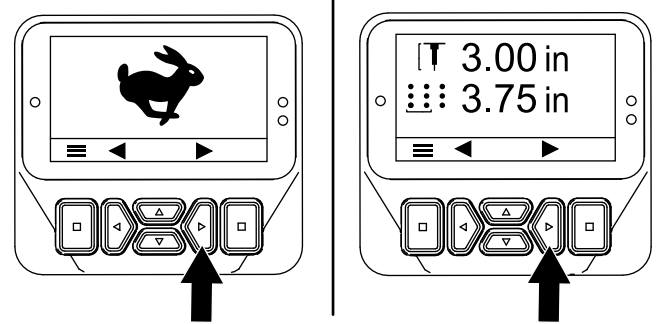
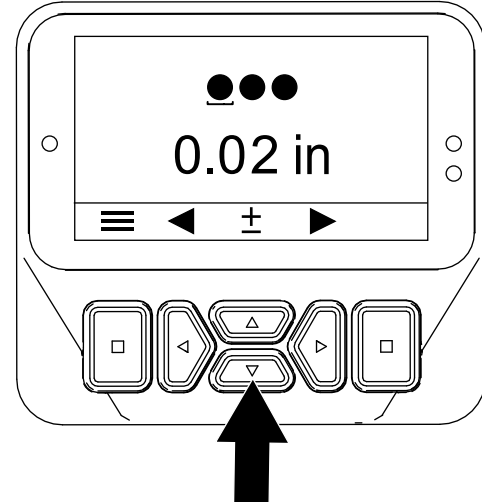

Figure 55
Figure 56
3. Press the right button until the Setting the Tine Diameter screen displays (Figure 55 and Figure 56).
4. Adjust the tine diameter using the up and down buttons (Figure 56) as follows: